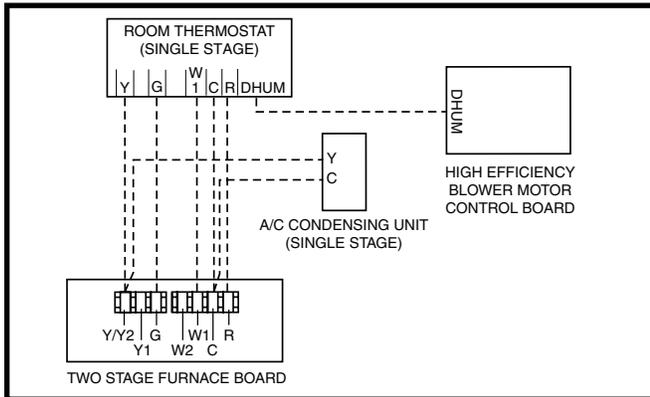
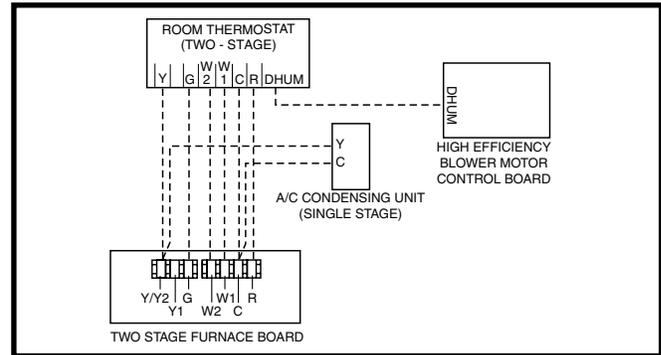
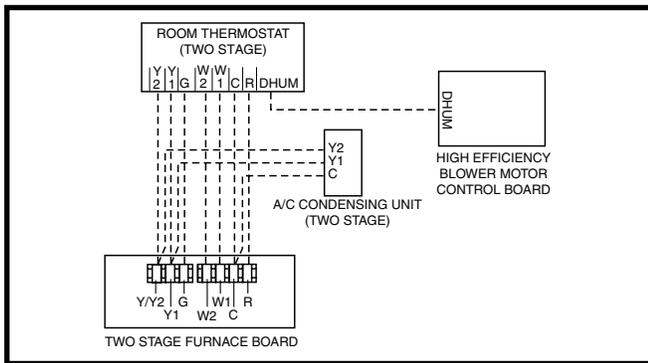

Figure 22. Wiring Configuration 1
Figure 23. Wiring Configuration 2
Figure 24. Wiring Configuration 3
- Connect the thermostat's **W** output to the furnace control boards **W1** terminal. This allows the furnace to always run in low output mode. See Figure 22.
This option uses the full two stage heating capability of the furnace with a single stage outdoor unit. See Figure 23.
This option uses the full two stage heating capability of the furnace with a two stage outdoor unit. See Figure 24.
The Autostaging feature makes it possible to use a single stage thermostat and still receive some of the benefits of 2-stage furnace operation. If Autostage is enabled, the furnace will drop to **LOW** fire after initially starting in **HIGH** fire. After a period of 10 minutes, the furnace will then stage up to **HIGH** fire, until the heating load is met. See Figure 22 and the Low Voltage Connection section on page 23.
- ✓ Verify that all needed thermostat wires are securely connected to the correct leads on the terminal strip of the circuit board. See Figure 22 (page 24), Figure 23 (page 24), & Figure 24 (page 25).
The operating sequences for the heating, cooling, and fan modes are described below. Refer to the field and furnace wiring diagrams: Figure 21 \(page 24\), Figure 22 \(page 24\), Figure 23 \(page 24\), Figure 24 \(page 25\) & Figure 32 \(page 35\), Figure 33 \(page 36\), Figure 34 \(page 37\), & Figure 35 \(page 38\).